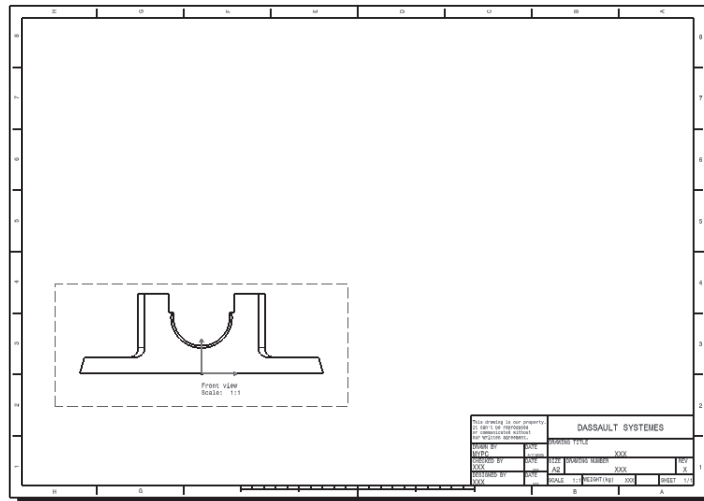

Figure 13-31 The drawing sheet, after generating the front view
- Generate the front view, refer to Figure 13-31.
4. Move the cursor on the frame of the preview of the front view; the cursor is replaced by a hand cursor. Press and hold down the left mouse button and drag the cursor close to the lower left corner of the drawing sheet, refer to Figure 13-31.
5. Click anywhere on the drawing sheet to generate the front view. The drawing sheet, after generating the front view, is shown in Figure 13-31.